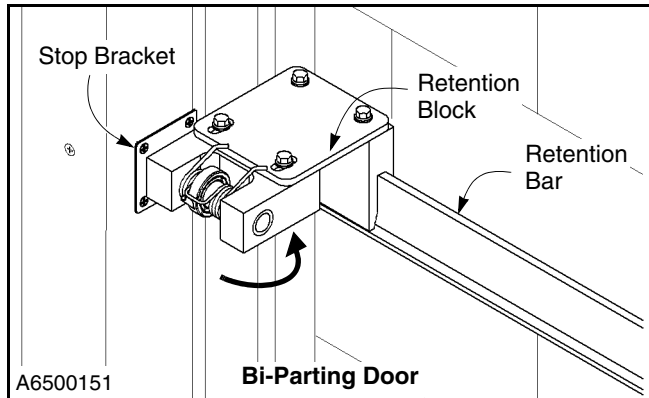

Figure 41
2. Unhook the retention block from the retention bar. (See Figure 41.)